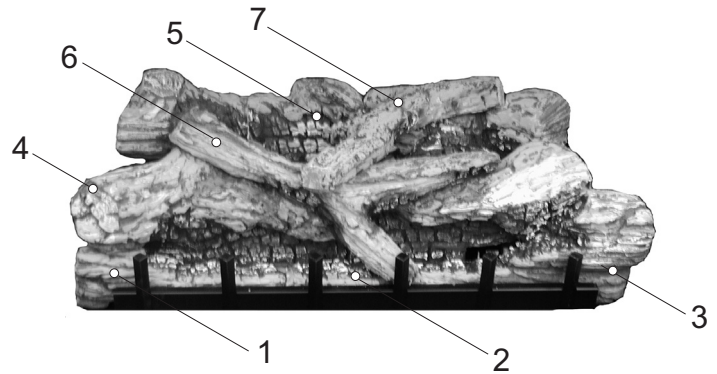
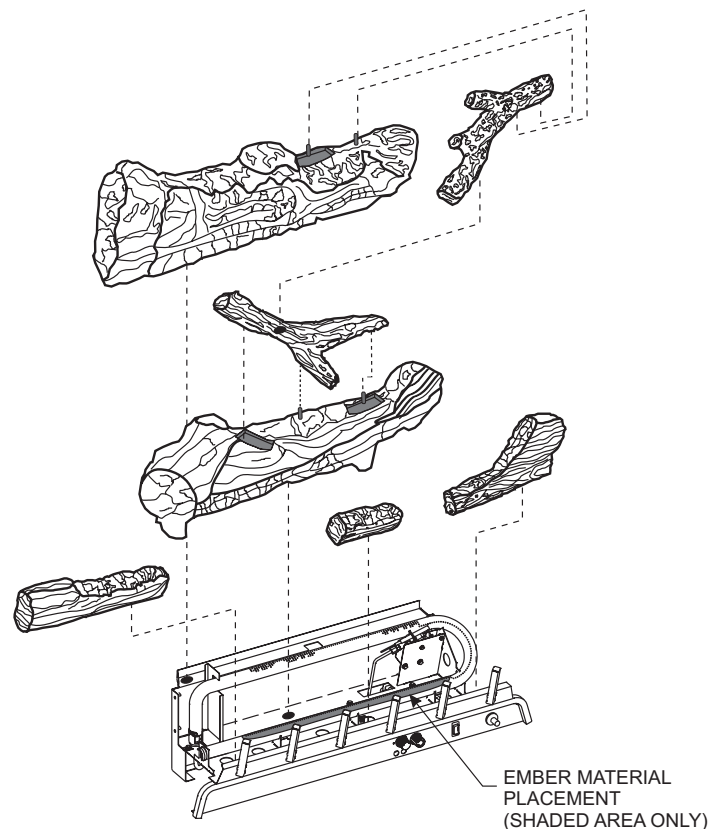

Figure 14
Figure 15
The positioning of logs is critical to safe and clean operation of this burner assembly. Sooting and other problems may result if the logs are not properly and firmly positioned on the burner assembly. Refer to **Figure 14** and **Figure 15** and corresponding **WARNING**: when completing following log placement steps.
6. After all logs are properly positioned, place small "dime" size pieces of Rockwool lightly across the front burner tube ports. Place the ember material (Rockwool pieces) side by side. Do not stack more than one layer of embers across the burner ports. No more than (1) one packet of ember material (part number 15999) evenly placed on the burner, is recommended on VFDR30 models. **See Figure 15.**
**Attention:** Do not use Figure 14 or Figure 15 to order logs. Refer to Parts Lists and Parts Views to order logs and/or ember material.